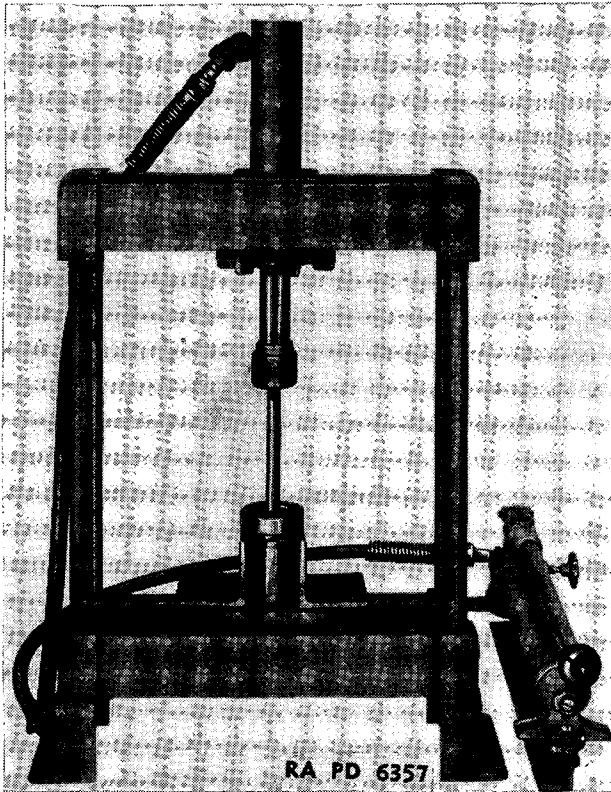

FIGURE 130.—Pressing front bearing off mainshaft.
(2) Remove mainshaft front pilot bearing—press. Set up in press and remove bearing (B184339) (fig. 130).
*a. Cleaning bearings.*—(1) Place all shaft roller and ball bearings into cleaning fluid and allow them to remain long enough to loosen old grease and lubricant.